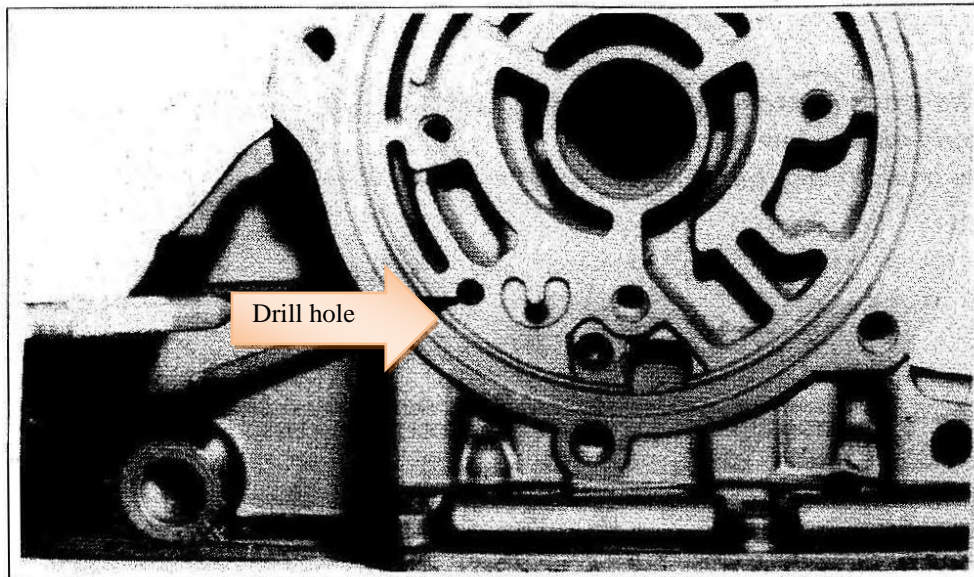

Fig. 1
STEP 2: *With the transmission disassembled and the reverse piston removed, locate the reverse apply/release fluid passage in the case. 1962-1966 cases use a rear pump. 1967-later cases do not use a rear pump. Early cases will have a hole at the 1 o'clock position when looking from the reverse piston side. This model of case will require drilling a guide hole from the back side of the case (see Figure 1). Viewing from the back side of the case, locate hole at the 7 o'clock position that intersects with reverse apply/release passage (viewing from valve body side). Use a 1/4" drill bit and drill from the back side of the case all the way through to the reverse piston area (see Figure 1).*
Hughes Performance will no longer be supplying the shift detent arm with our HP7482X Powerglide Trans-Brake Kits. This must be removed from your existing valve body and transferred to the new unit. Locate the shift detent arm on your valve body, remove the circlip from the shaft and remove shift detent arm (Figure 1). Reinstall shift detent arm on new valve body and secure with circlip.